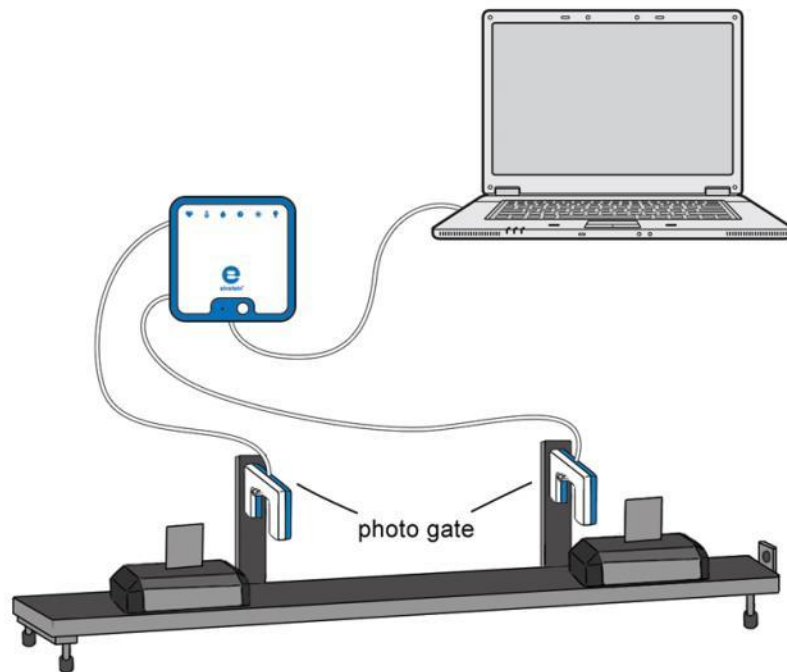

Figure 1
3. Assemble the equipment as shown in Figure 1.
4. Attach a flag to each cart (see Figure 1).
5. Mount the Photogate sensors on the Dynamic Track using the brackets. Position the two Photogate sensors about 20 to 25 cm apart along the track (see Figure 1) so that the flags block the sensors while passing through them.